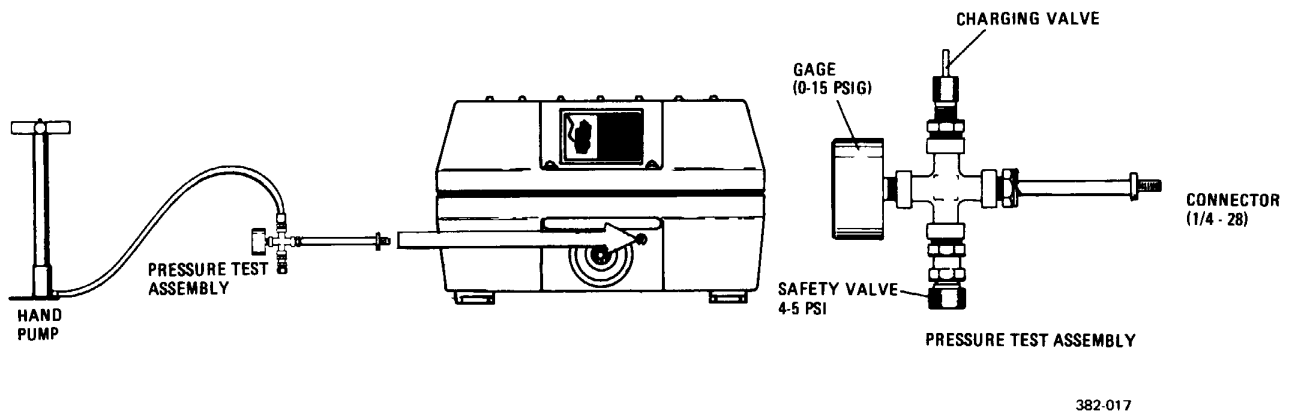

Figure 5-3. Pressure Test Setup
The CU-2397/G is an airtight unit and should be leak-tested after any internal maintenance. The test adapter and hand pump required for this procedure are included in the RF-382/MRK-24. Refer to figure 5-3 and proceed as follows:
- b. Connect a pressure test assembly and hand pump (both part of maintenance repair kit) as shown in figure 5-3.